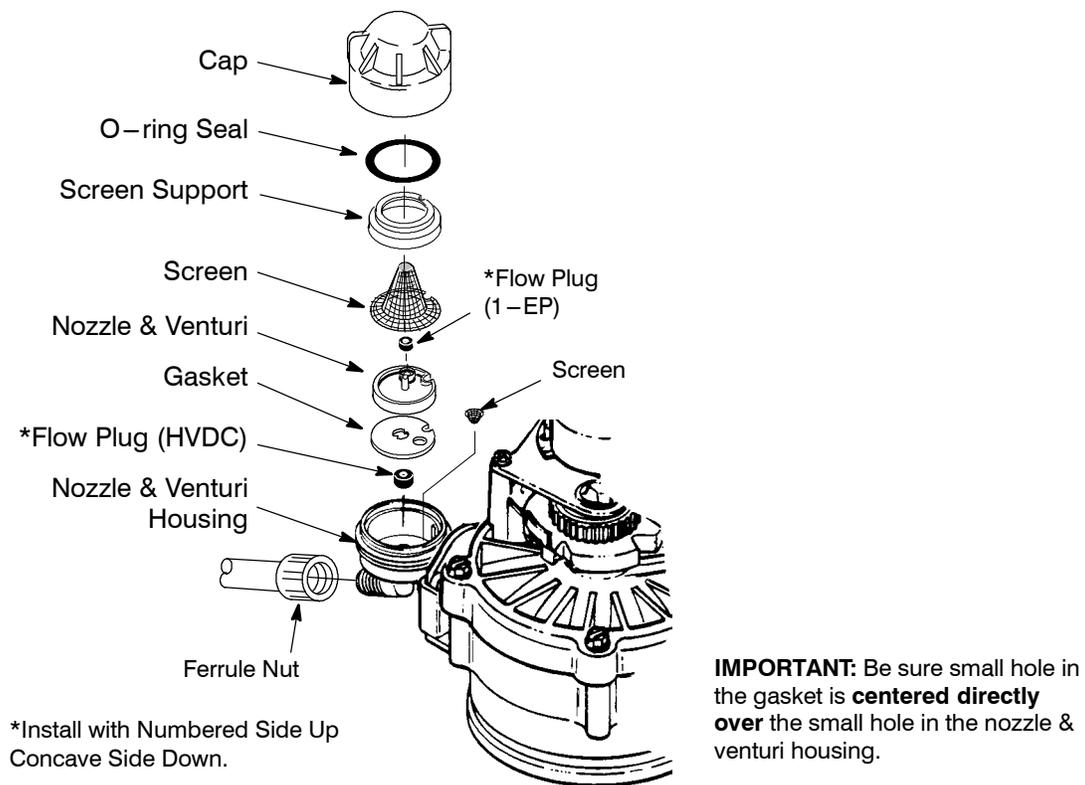

Figure 14
A clean nozzle and venturi (see Figure 14) is a must for the conditioner to work properly. This small unit creates the suction to move brine from the brine tank, into the resin tank. If it should become plugged with sand, silt, dirt, etc., the conditioner will not work, and you will get hard water.
a. If water does not enter the tank, look for an obstructed nozzle and venturi, fill flow plug or brine tubing Figure 14, page 26.